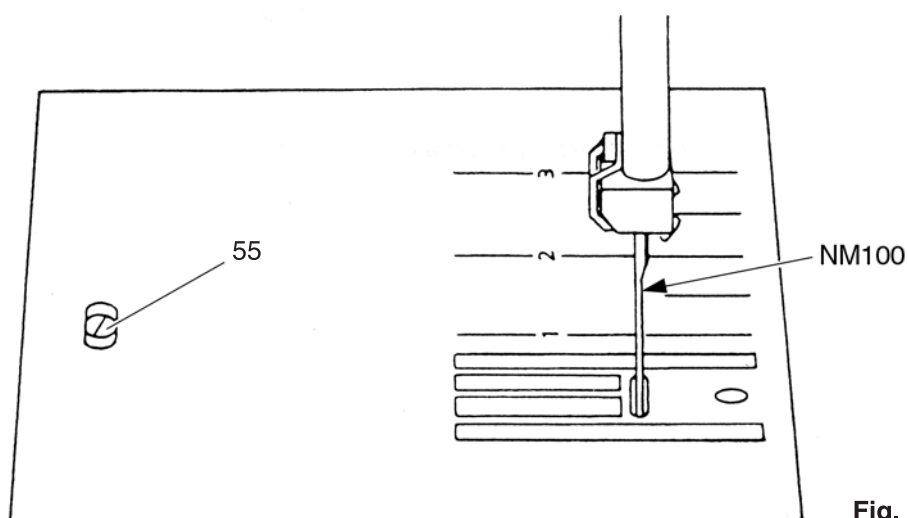

Fig. 30
- Turn adjustment eccentric 55 until the distance from the front and rear edges of the needle hole is equal (fig. 30).